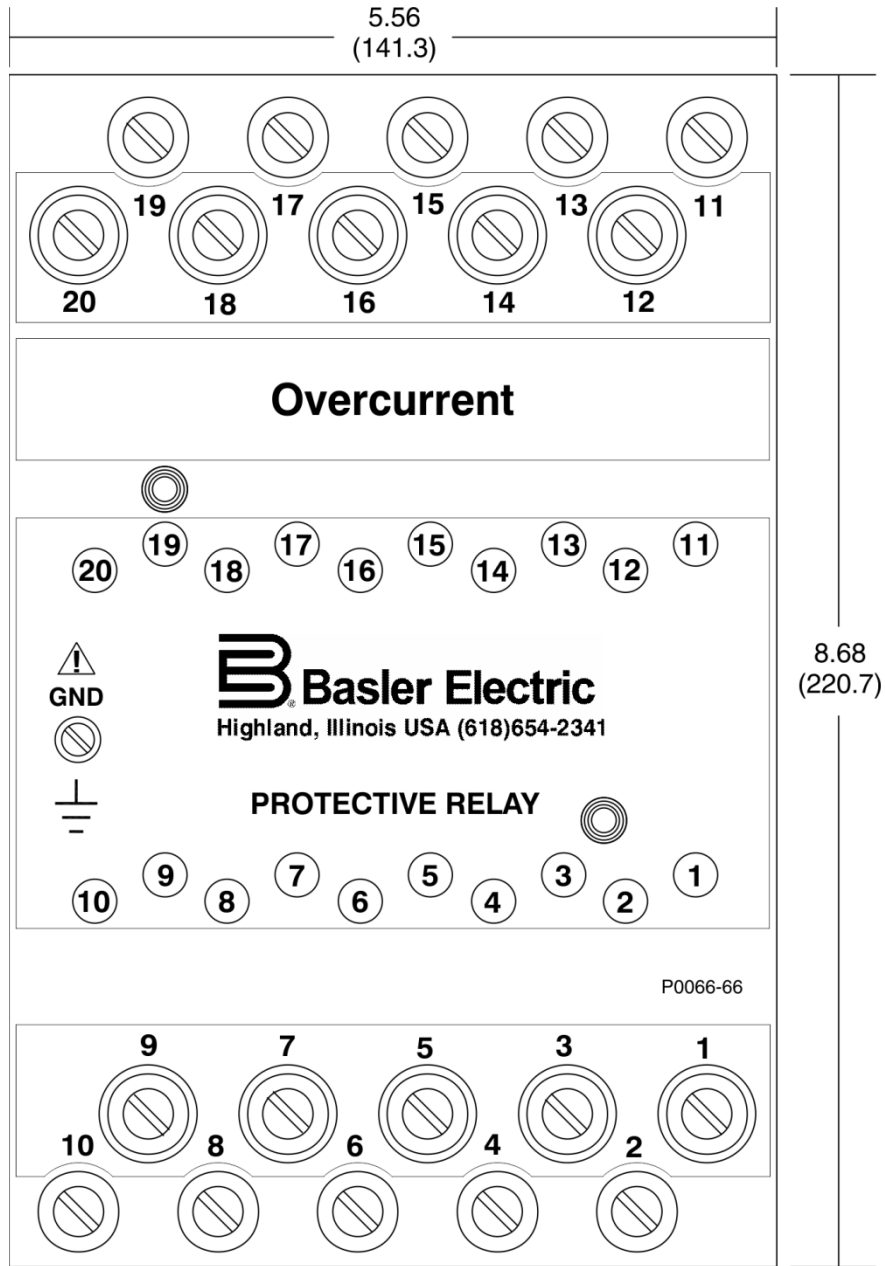

Figure 4-7. S1 Case Dimensions, Rear View, Double Ended, Projection Mount
- Figure 4-7: S1 Case Dimensions, Rear View, Double Ended, Projection Mount